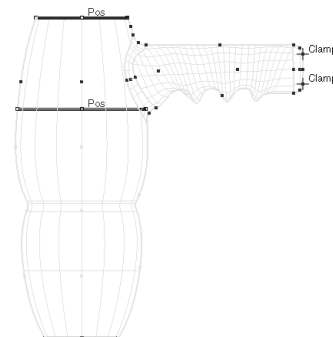

Figure 11-87 Clammers added to the n-sided surface
3. Add the second clamber to the n-sided surface. The handle of the model after adding two clammers is displayed, as shown in Figure 11-87.